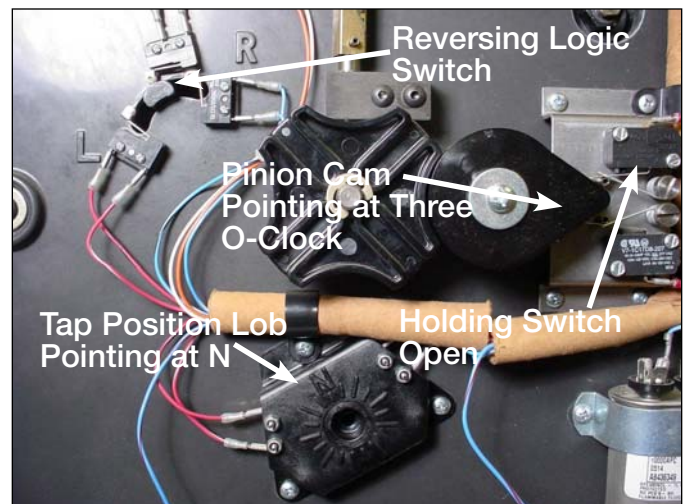

Figure 33.
- Check and set the tap changer for neutral position. The tap changer can be set for any tap position by rotating the pinion cam in either the clockwise or counter clockwise direction. For neutral position the reversing logic switch actuator must be in the center with the neutral switch arm depressed. The tap position lobe must have the pointer pointing at N. The pinion cam point is pointing at the three o'clock position over the holding switch lever arm. The holding switch is open. See Figure 33.